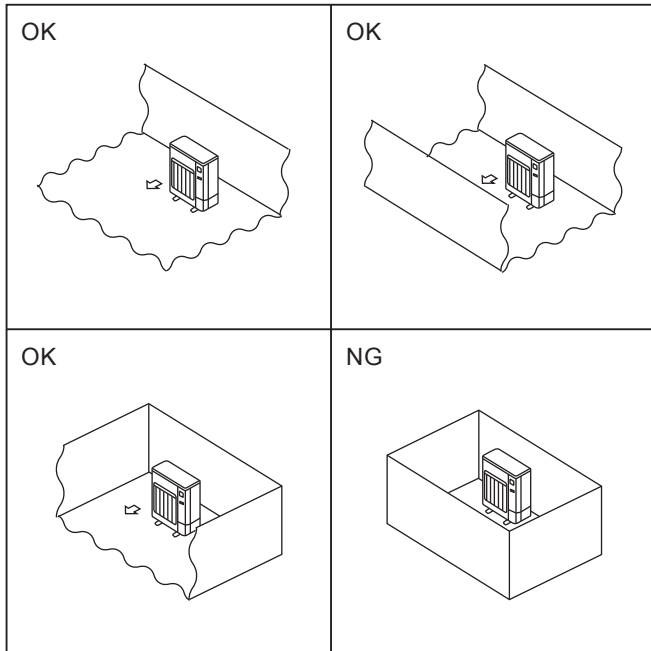

Fig. 1-1
- ⊙ Install outdoor units in a place where at least one of the four sides is open, and in a sufficiently large space without depressions. (Fig. 1-1)